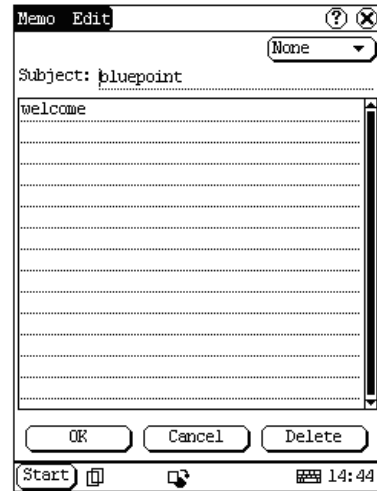

Figure 4-20
- 2) Then you can edit the contents of the memo in the opened Memo Edit interface. See Figure 4-20.